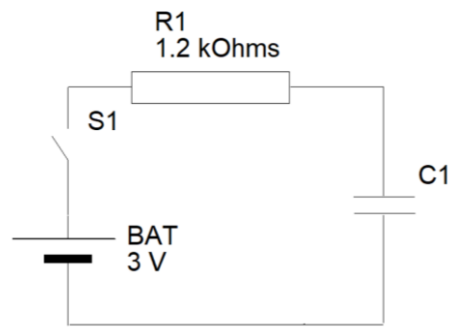

Figure 7: Circuit 6
- c) Find the capacitance value of capacitor C1 required to obtain a time constant of 2.64 s for the RC circuit shown in Figure 7.